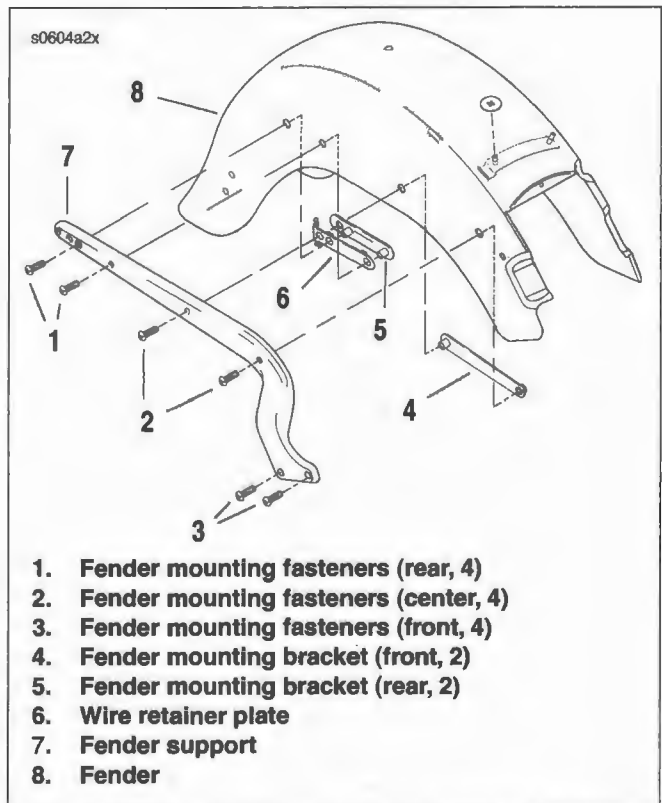

Figure 2-140. Rear Fender: FLSTSC/FLSTN
5. See Figure 2-140. Remove fender mounting fasteners (2) and fender mounting bracket (4). Insert rods through forward most holes created by removing fasteners. Rods will keep fender in place during next step.
6. Remove fender mounting fasteners (3).
- c. See Figure 2-140. Detach fender supports (7) by removing fender mounting fasteners (1).
2. See Figure 2-140. Install fender support (7) using wire retainer plate (6), fender mounting bracket (5) and fender mounting fasteners (1). Do not tighten fender mounting bracket fasteners at this time.
1. See Figure 2-140. Carefully place the fender into position. Install fender supports using hardware and brackets shown. Tighten to 21-27 ft-lbs (28.5-36.6 Nm).